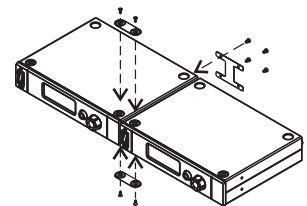

Fig. 9
- (B) Screw top, bottom and back plates to joint two receivers, as Fig. 9